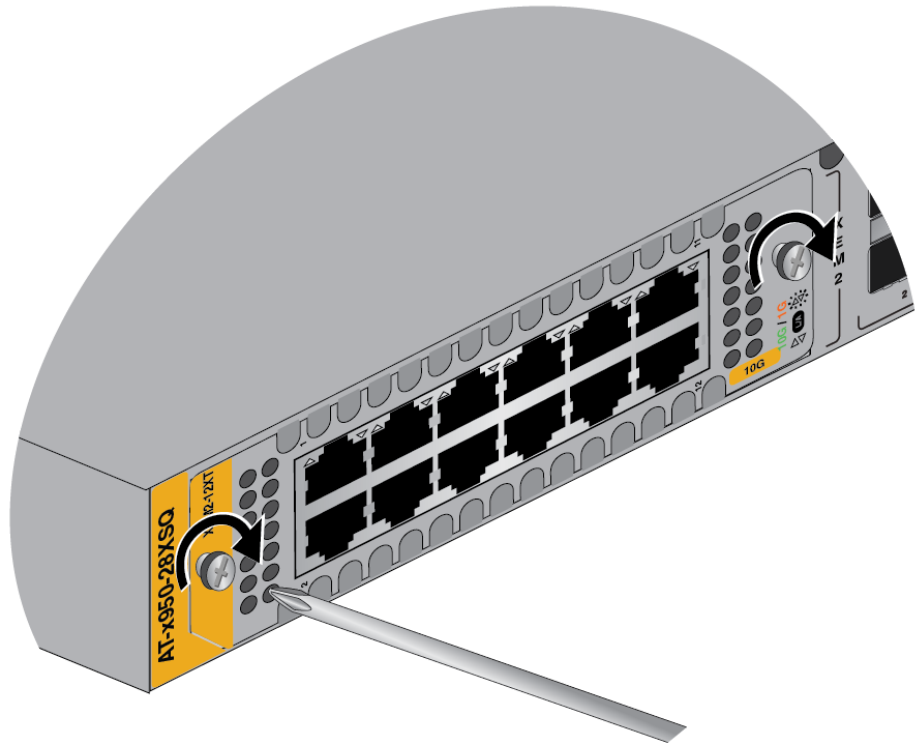

Figure 58. Tightening the Two Captive Screws on the Ethernet Line Card
6. Tighten the two captive screws on the card to secure it in the switch. Refer to Figure 58 on page 104.